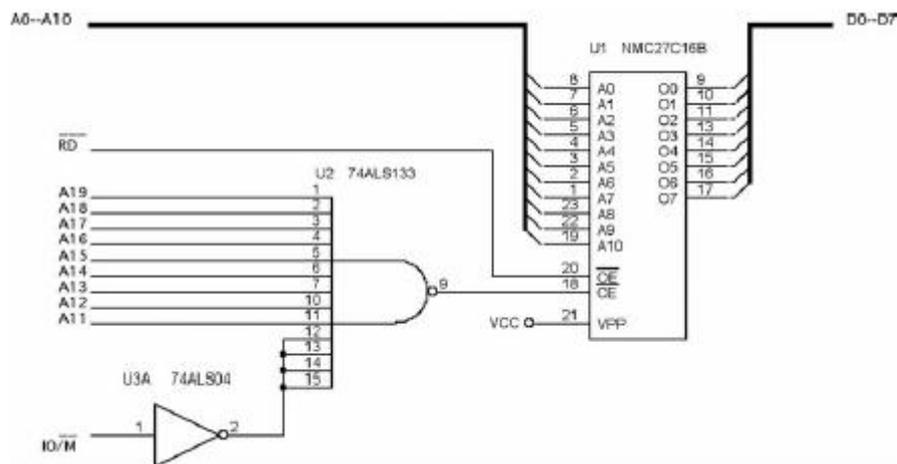

Figure 10-13:A simple NAND gate decoder that selects a 2716 EPROM for memory location FF800H-FFFFFH
- When the 2K*8 EPROM is used, address-connections A₁₀-A₀ of the 8088 are connected to address-inputs A₁₀-A₀ of the EPROM (Figure 10-13).